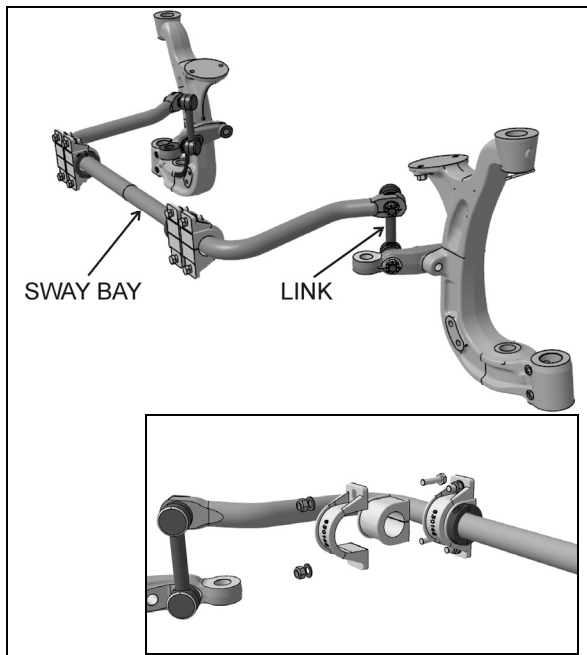

FIGURE 33: SWAY BAR (INDEPENDENT FRONT SUSPENSION) 16138_C
2. Using a caliper, measure dimension "A" on figure 33.